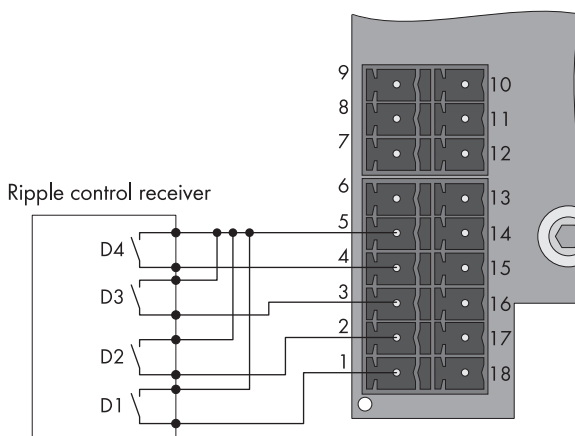

Figure 5: Pin assignment of the module at the ripple control receiver terminals
- ☐ One ripple control receiver with four outputs (see figure 5)